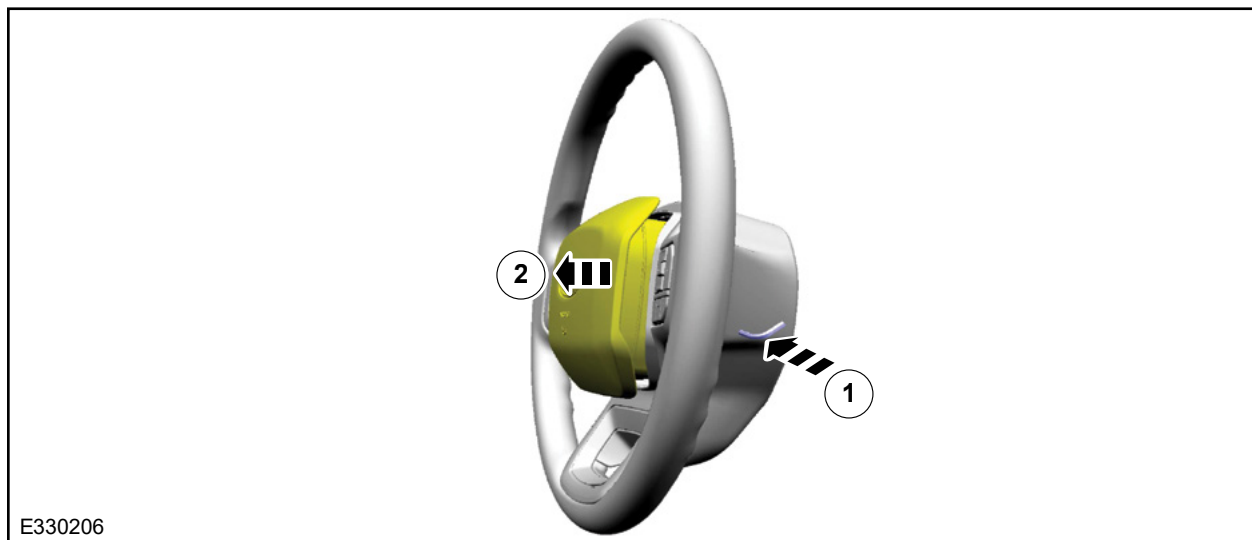

FIGURE 6
1. Push in on the steering wheel spring clip to release the driver airbag retainer. See Figure 6.